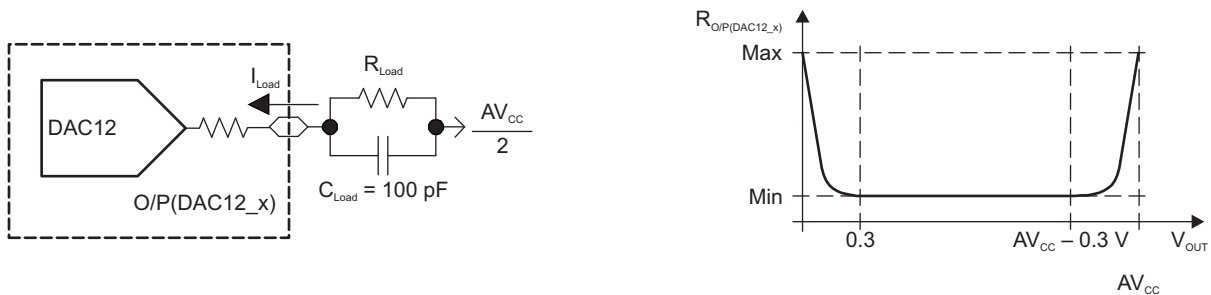

Figure 5-18. DAC12\_x Output Resistance Tests
| V O Output voltage range (1) (see Figure 5-18) | No load, V REF+ = AV CC , DAC12_xDAT = 0h, DAC12IR = 1, DAC12AMPx = 7                     | 2.2 V, 3 V      | 0                       |     | 0.005            | V    |
| R O/P(DAC12) Output resistance (see Figure 5-18)          | R Load = 3 kΩ, V O/P(DAC12) < 0.3 V, DAC12AMPx = 2, DAC12_xDAT = 0h                       | 2.2 V, 3 V      |                         | 150 | 250              | Ω    |